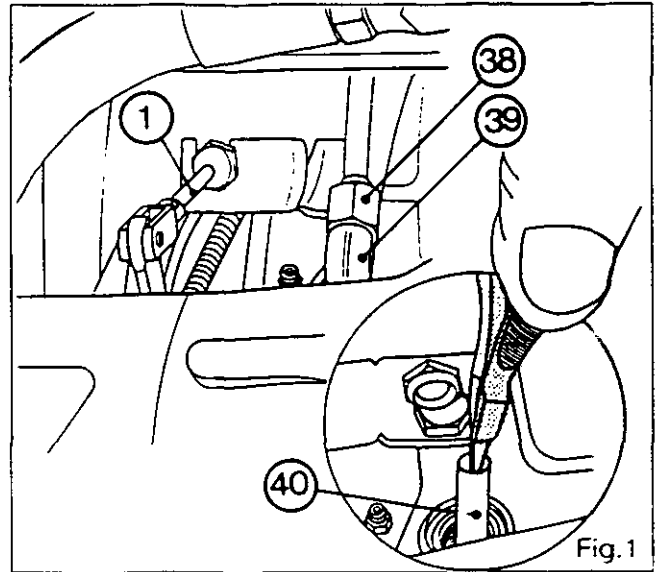

Fig. 1
2. Disconnect the supply tube (38), unscrew the connector (39) and withdraw the tube (40) (Fig. 1).
**Note:** If access to the connector (39) is difficult, on «economy 4-speed p.t.o.» version tractors, remove the control (1) (Fig. 1).
3. Undo the screws (2) alternately so as to release the spring (6) gradually.
4. Remove the carrier (9), the washer (11), the sliding coupler (7) and the spring.
19. Fit the pipe (40) and the connector (39) (Fig. 1).
23. Disconnect the pressure gauge and connect the supply pipe (38) (Fig. 1).
25. Check for leaks of the supply pipe (38) (Fig. 1) and the operation of the differential lock.